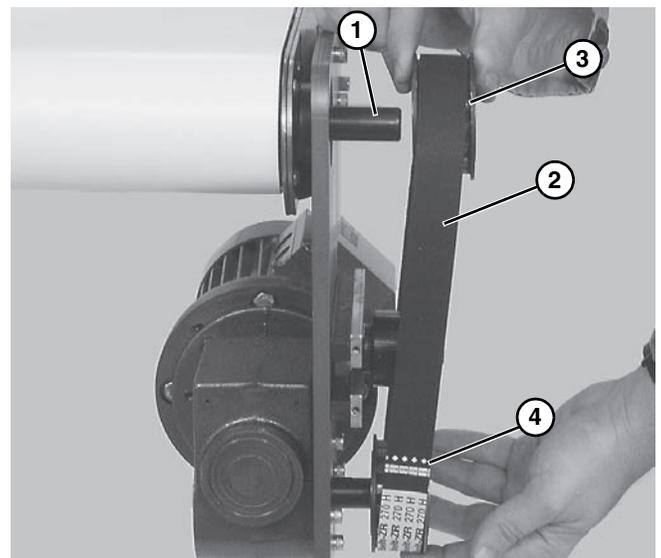

Figure 8
6. Install key (**Figure 8, item 1**).
7. Wrap timing belt (**Figure 8, item 2**) around driven pulley (**Figure 8, item 3**) and drive pulley (**Figure 8, item 4**). Install driven pulley onto conveyor shaft.